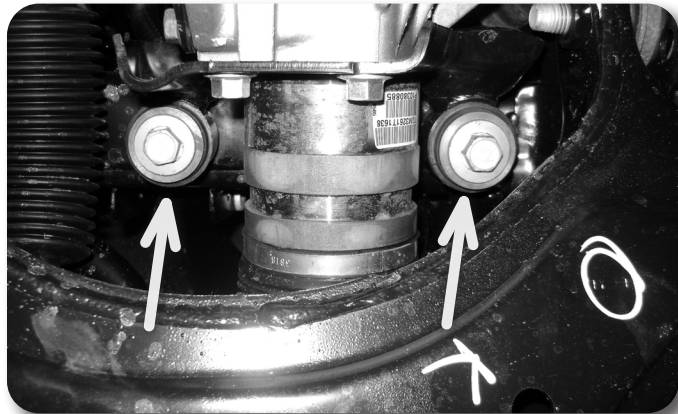

Figure 3 Passenger Side Shown
12. Support the differential with a jack and locate the 4 bolts mounting the differential to the frame. Figure 3